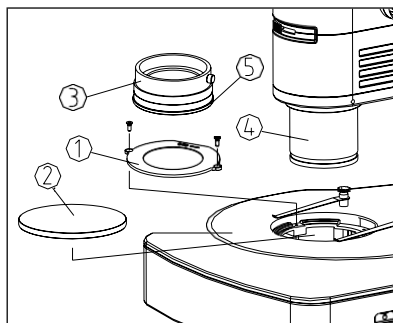

Fig. 24
- 1) Take off the worktable② from the base, and fix the polarizer group① onto the base with a M3 sunk key (make the flat side of polarizer group① close to the pillar), then put back the worktable②. (See Fig. 24)
- 2) Loop the analyzer group③ on the outside diameter of main objective④, and lock it with the lock screw of analyzer group.
- 3) Rotate the adjusting ring⑤ of analyzer group③, to adjust the vibrated direction of the analyzer, which is 360° rotatable.